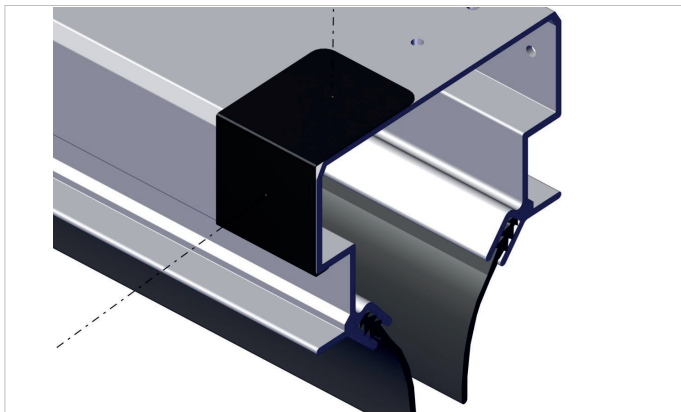

Fig. 6.3.1 Drill template on VSRX
- With the use of the drill template drill two 9 mm holes on the side of the rail and two on the top of the rail. Refer to fig. 6.3.1.